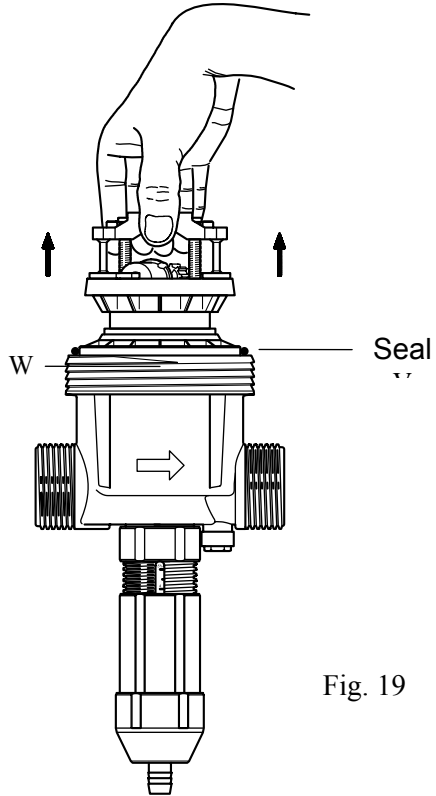

Fig. 19
- Carefully remove the piston assembly holding it upright (**Fig. 19** - page 22).
- Lift out the piston assembly taking care to hold it upright (**Fig. 19**) so that the plunger seal (**Fig. 22 - Rep. Y**) engages correctly in the sleeve. If the seal does not engage in the sleeve, refer to the procedure for dismantling the dosing assembly (**Fig. 19**).
- Empty the body by turning upside down (**Fig. 19 - Rep. W**).